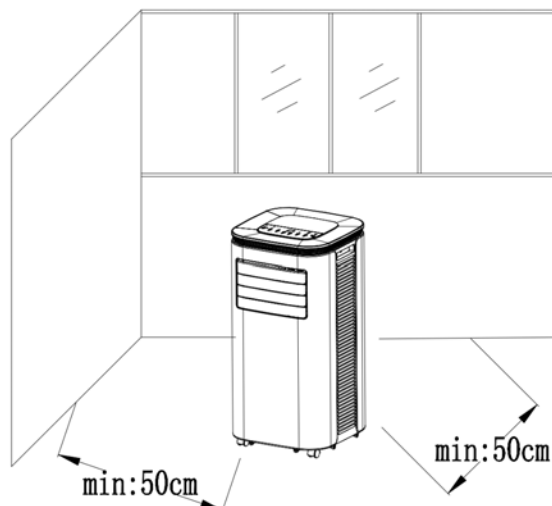

Figure 4
- 1) Move the machine with installed heat pipe and fittings before the window, and the distance between the body and walls or other objects shall be least 50 cm (as shown in figure 4.)